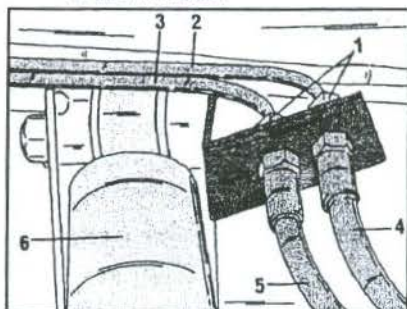

Fig. 4.2 - Attachment of brake hoses to brake pipes.
- Disconnect the brake hoses by referring to Fig. 4.2. To do this, remove the two brake hose retainers (1), hold the hexagon of the brake hose(s) with an open-
- Reconnect the brake hoses with the brake pipes in accordance with Fig. 4.2 and bleed the brake system as described in Section "Brakes".